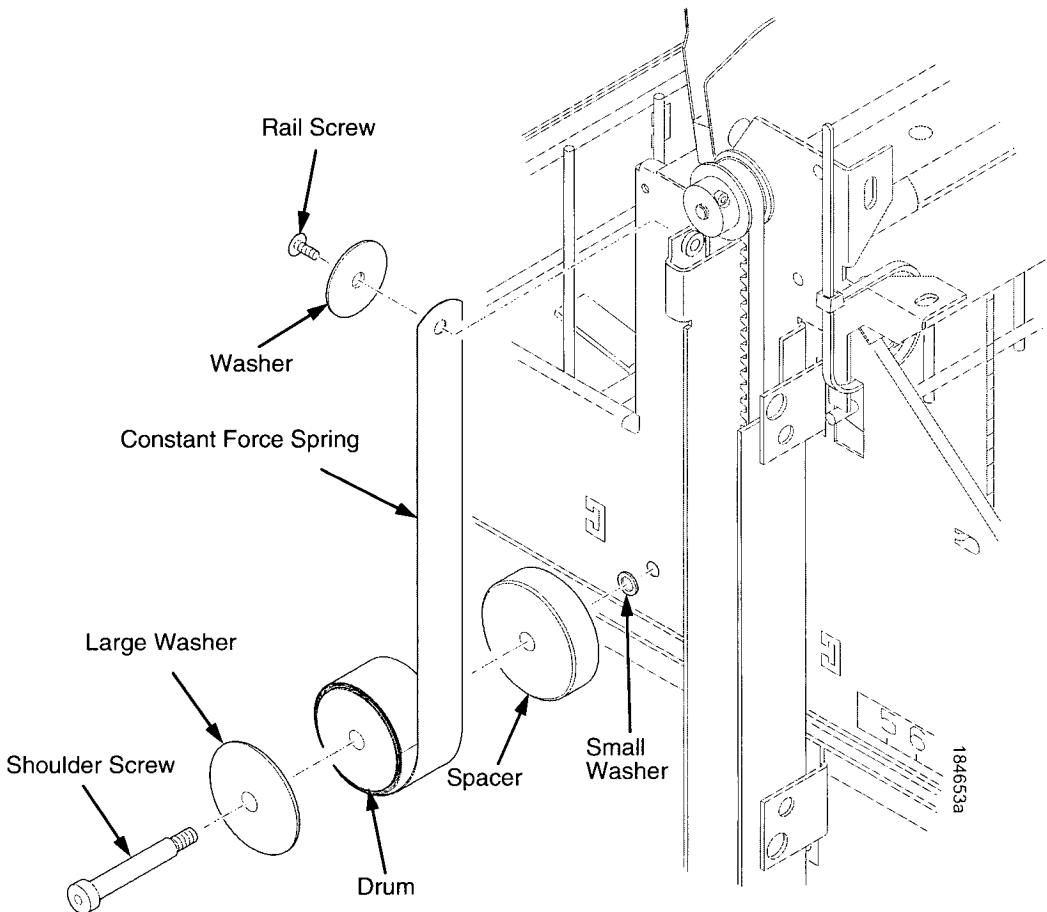

**Figure 96. Securing the Elevator Assembly**
2. Raise the elevator assembly to within about 1/4 inch of its highest position and secure it to the vertical rails using tie wraps or string. Do not over-tighten the tie wraps or string; tighten them just enough to hold the elevator up. (Figure 96.)
2. Raise the elevator assembly to its highest position and secure it to the vertical rails using tie wraps or string. Do not over-tighten the tie wraps or string; tighten them just enough to hold the elevator up. (Figure 96, page 406.)